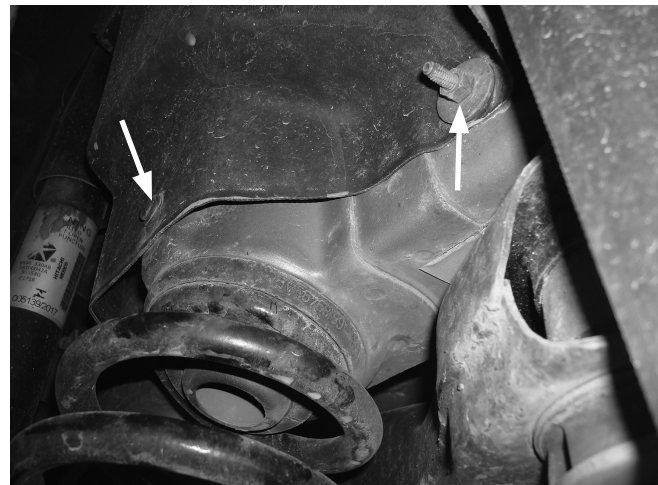

Fig. 2
2. To gain access to the upper spring seat area for air line routing, remove the push pin and nut/washer from the weld stud above and behind the coil spring that holds the inner fender liner in place. These will be re-used later once the air line has been routed (Fig. 2).